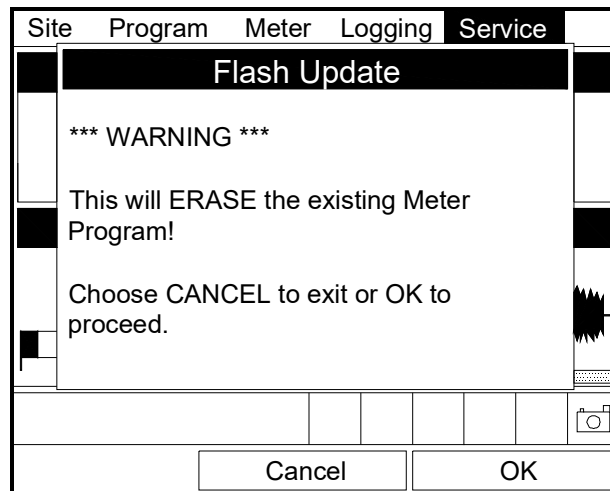
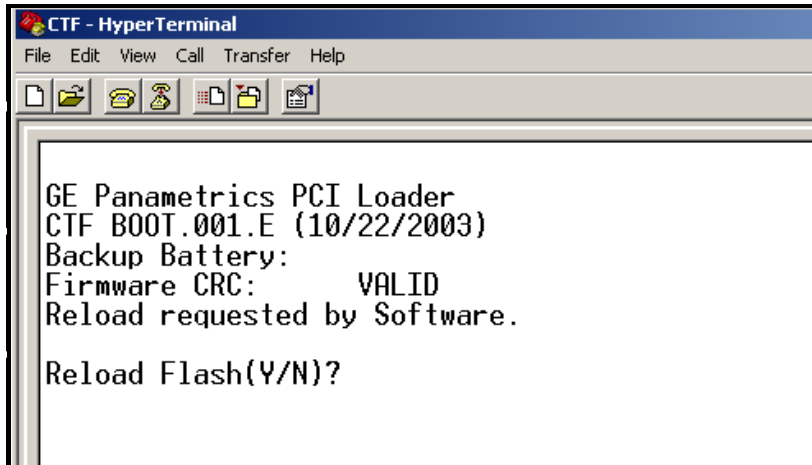

Figure 17: Flash Update Option
Figure 18: Flash Reloading Window
To begin the loading procedure, scroll down to the Flash Update entry in the Service Menu and press **[ENTER]**. The screen appears similar to Figure 17 below.
1. As shown in Figure 17 above, the Flash Update option erases all instrument coding.
- Press **[F3]** (OK) to confirm that you wish to erase the program.
2. The meter asks for confirmation. Repeat the options shown in Step 1 above. The screens on both the PC and the CTF878 now appear similar to Figure 18 below.